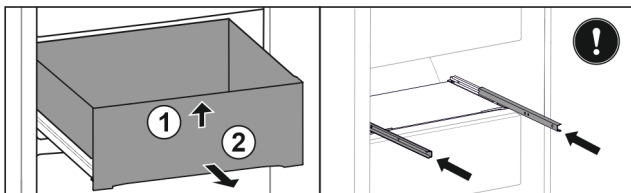

Fig. 139
- ▶ Lift up drawer at the front. Fig. 139 (1)
- ▶ Remove drawer to the front. Fig. 139 (2)